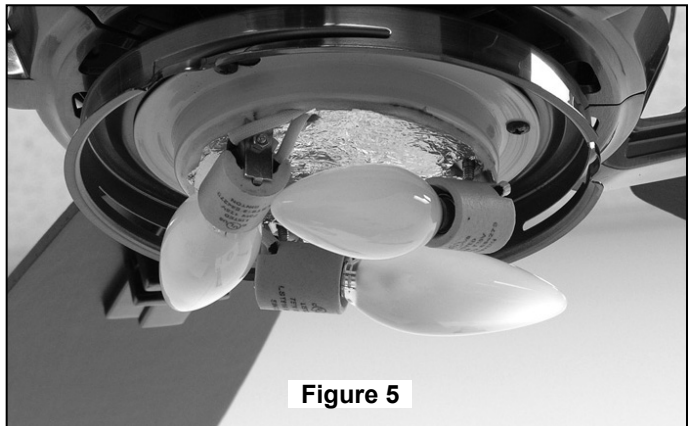

Figure 5
5. Install three Candelabra Bulbs (included - 40 watts max) in each of the sockets on the Downlight Socket Plate Assembly. (Figure 5)